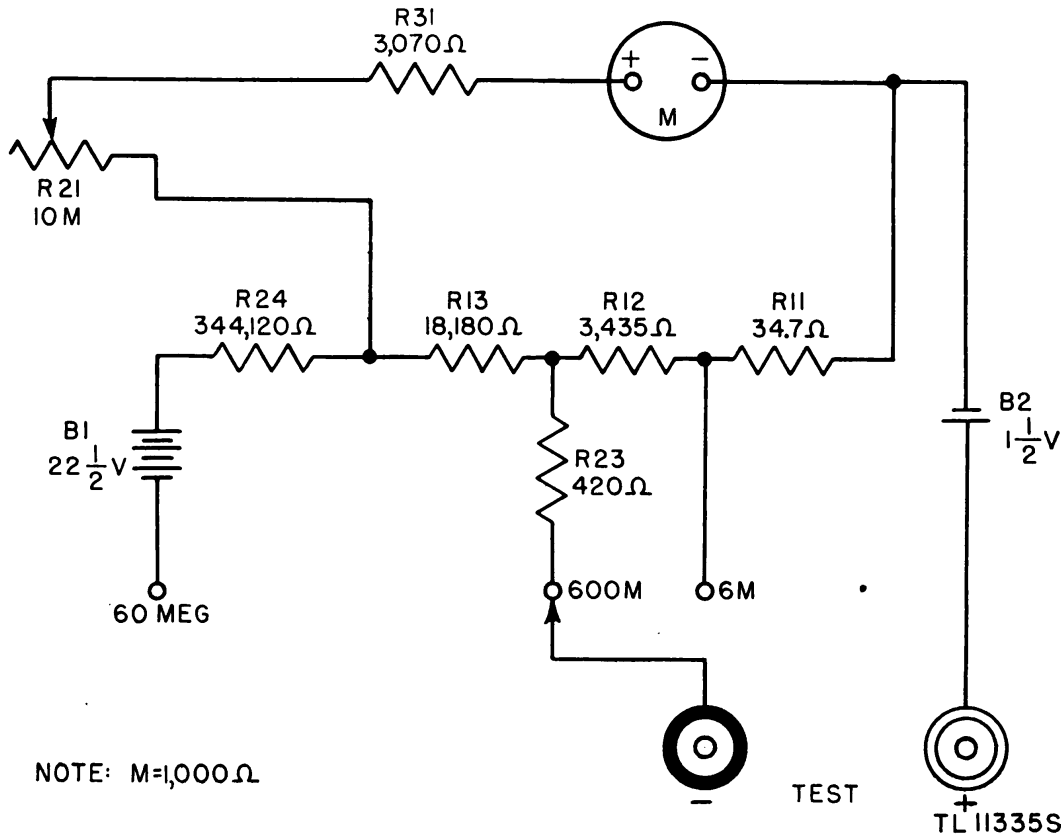

Figure 9. Simplified schematic of ohmmeter circuit.
c. Test Set as an Ohmmeter (fig. 9). The two lower ranges of resistance, 6,000 and 600,000 ohms, are read by connecting the 1½-volt battery in series with resistors R11 and R12 and the resistance to be measured. The current flowing through the meter with the test leads shorted can be adjusted to full scale reading by the OHMS ADJUST potentiometer. Any resistance placed